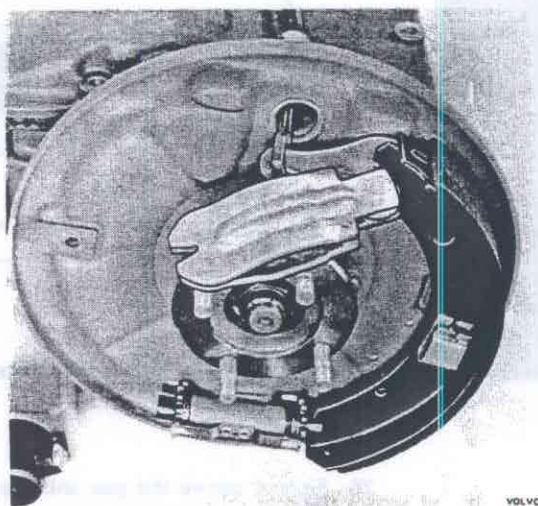

Fig. 43-130. Fitting brake shoe
9. Assemble the propeller shaft brake. Fit first the lower brake shoe. Then fit the lever, Fig. 43-130, the upper return spring, the upper shoe, the lower return spring and the drum.